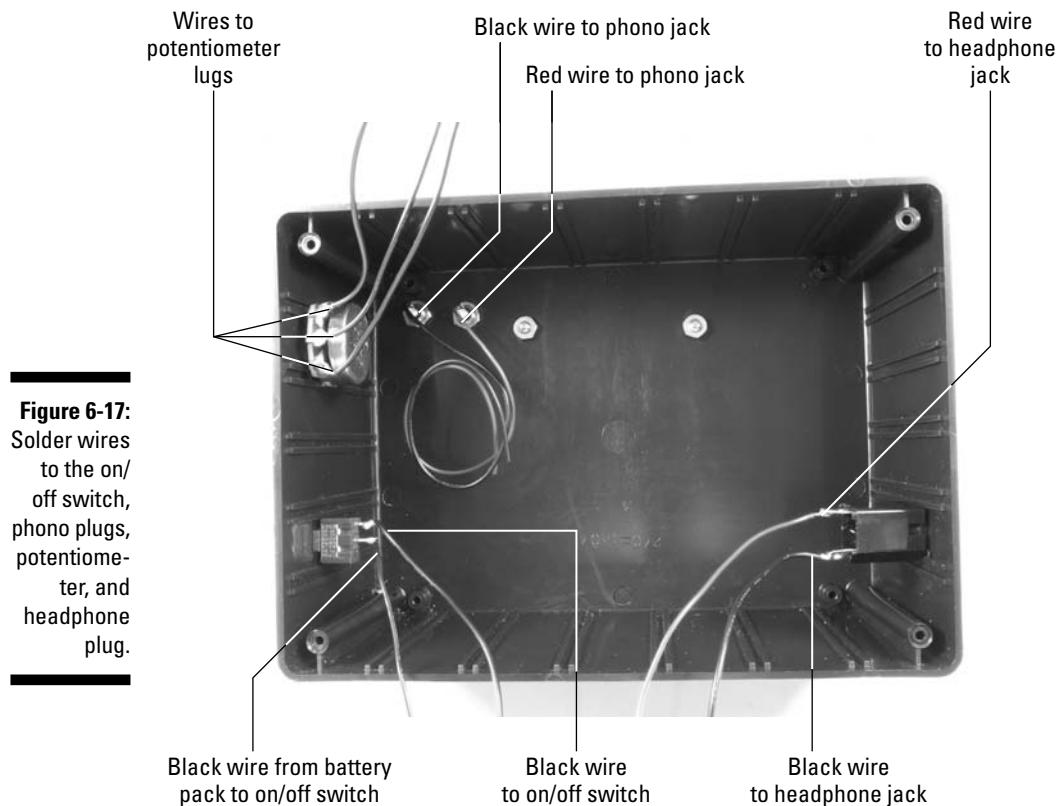

Figure 6-17:
- 8. Solder the black wire from the battery pack to one lug of the on/off switch and solder an 8" black wire to the remaining lug of the on/off switch, as shown in Figure 6-17.**
- 9. Solder one 8" black wire to the lug on one of the audio jacks and solder one 8" red wire to the lug on the other audio jack, as shown Figure 6-17.**
- 10. Solder 8" wires to each of the three potentiometer lugs, as shown in Figure 6-17.**
- 11. Solder one 8" black wire and one 8" red wire to the lugs of the headphone jack, as shown Figure 6-17.**